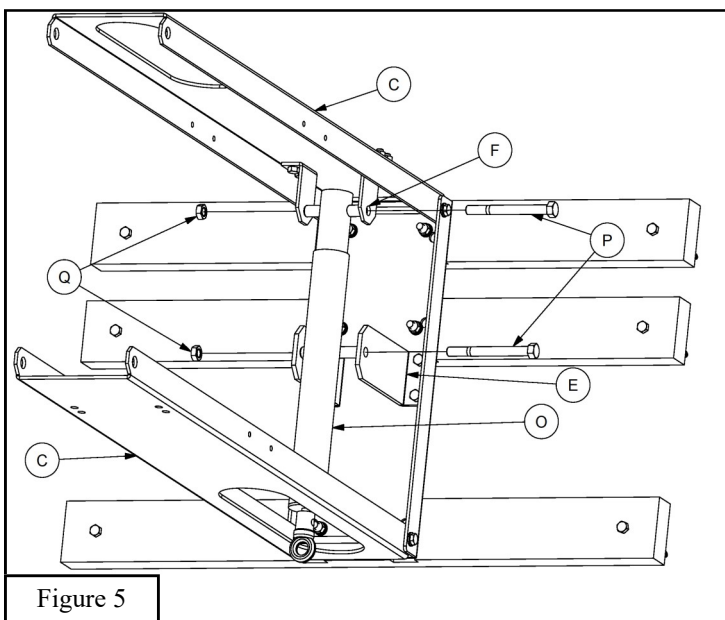

Figure 5
7. Install the *Crank* (O) to the *Pole Plate Brackets* (E) and the *Extension Channel Brackets* (F) previously installed in #3 above using $1/2'' \times 5''$ *Hex Bolts* (P) and $1/2''$ *Thin Lock Nuts* (Q). Tighten the $3/8'' \times 1''$ *Hex Bolts* (J) and $3/8''$ *Hex Nuts* (M) installed in #3 above. Tighten the $1/2'' \times 5''$ *Hex Bolts* (P) and $1/2''$ *Thin Lock Nuts* (Q) then reverse $1/2$ turn to insure *Crank* (O) can move freely within the mounting brackets. See Figure 5.